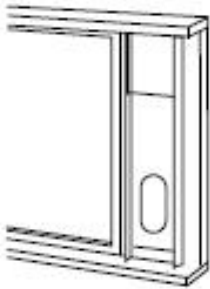

Fig. 15
- 3) Cut the foam seal (adhesive type) to the proper length and attach to the side of the window. See Fig. 15.